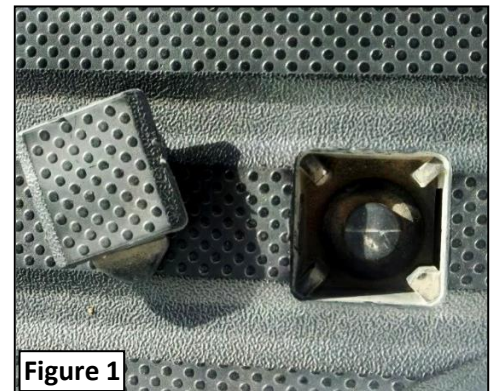

Figure 1
3. Use a flathead screw driver to pop up the small squares on top of the bumper, revealing the plastic snap pins inside. See **Figure 1**.